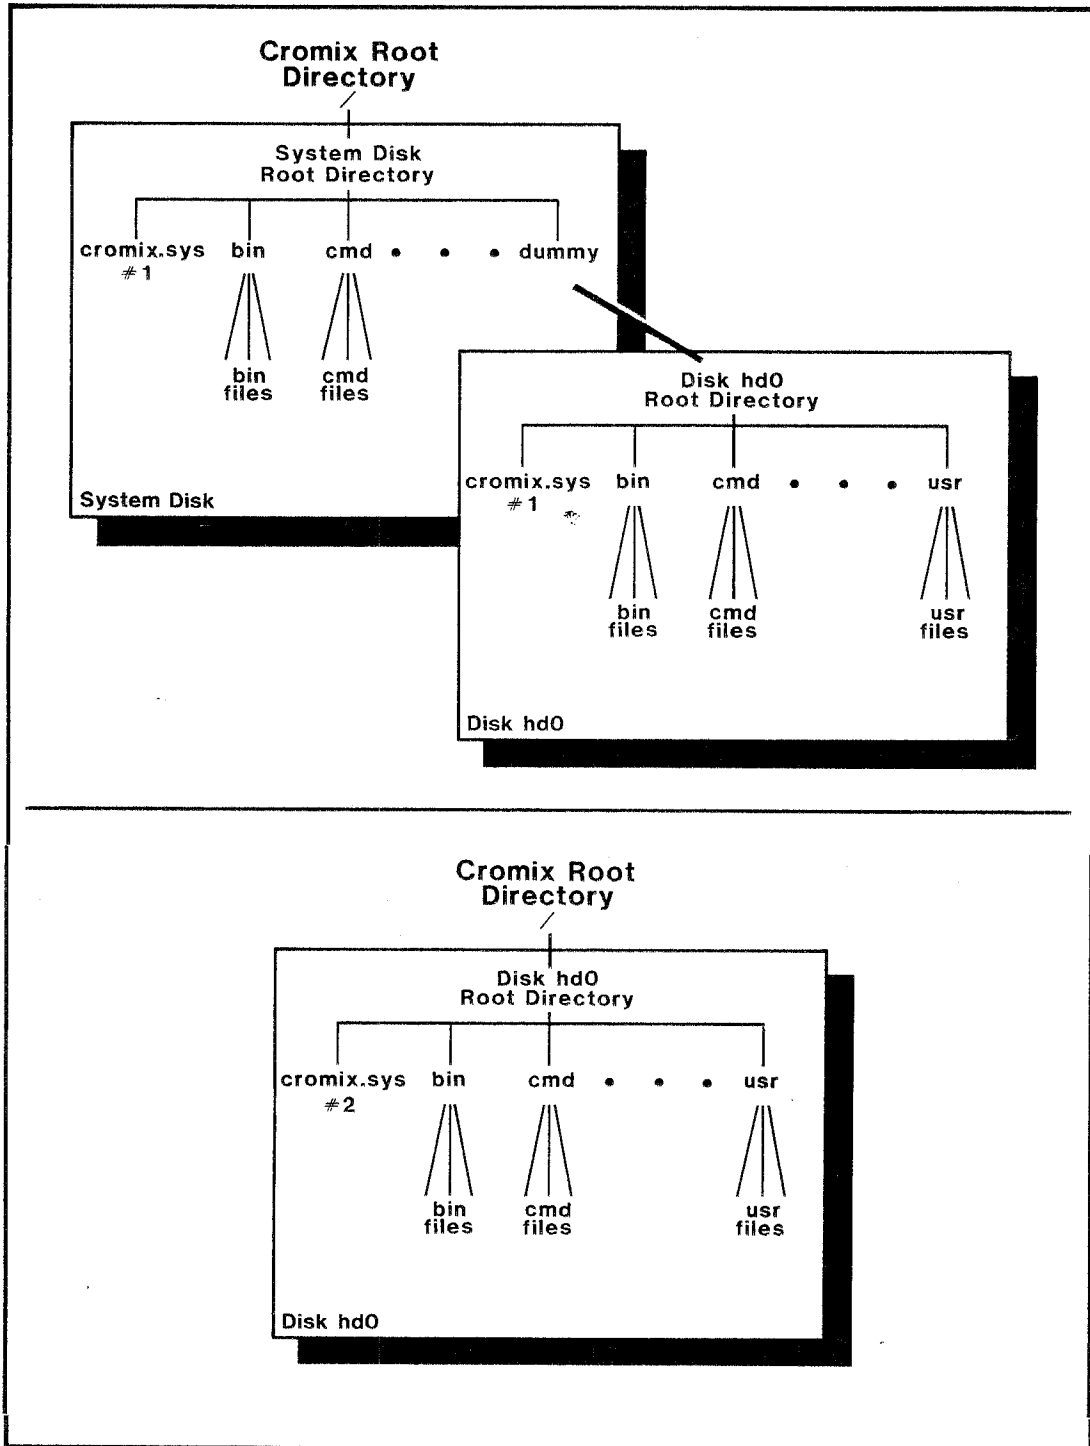

Figure 4-1: PROCEDURE 4C FILE STRUCTURES
- STEP 3 On LINE 2, mount disk **hd0** into this dummy file. This makes **/dummy** the root directory of disk **hd0**, as shown in the upper portion of Figure 4-1. The Cromix file structure now spans two disk drives; the boot drive which holds the System Disk, and mounted drive **hd0**. Note that the absolute pathnames of all files stored on mounted disk **hd0** must begin with **/dummy**. Also note that the System Disk stores the factory shipped **cromix.sys** program (shown as **cromix.sys #1** in Figure 4-1), hard disk **hd0** now stores a copy of **cromix.sys #1**, and program **cromix.sys #1** is now running in System Memory.
- STEP 10 On LINE 26, run the Boot utility to warm boot the new **cromix.sys** program. Log in as privileged user **system**. Since the new **cromix.sys** program automatically selects disk **hd0** as the default root device, the Cromix file structure now looks like the lower portion of Figure 4-1. Note that the boot drive is now off line, disk **hd0** is on line, the new **cromix.sys** program (called **cromix.sys #2** in the figure) is stored in the Cromix root directory **/**, and program **cromix.sys #2** is running in System Memory.